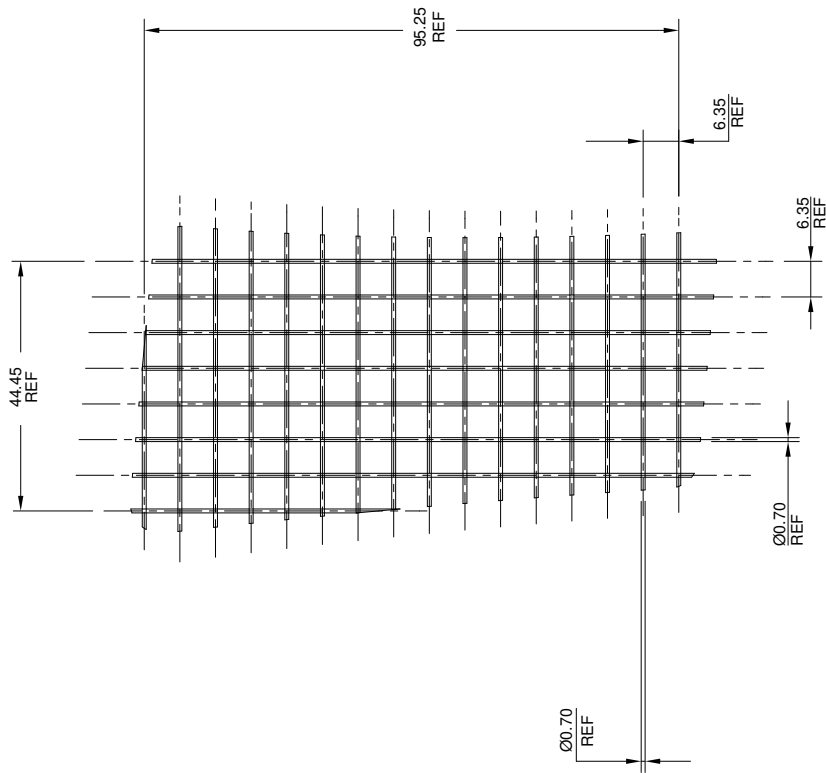

Figure 8
3. With reference to Figure 8, if necessary manufacture n°2 HEPA filters P/N 3G2150A08151 from the raw material P/N 4708-HEPA, use cover P/N 3G2150A07931 as template.